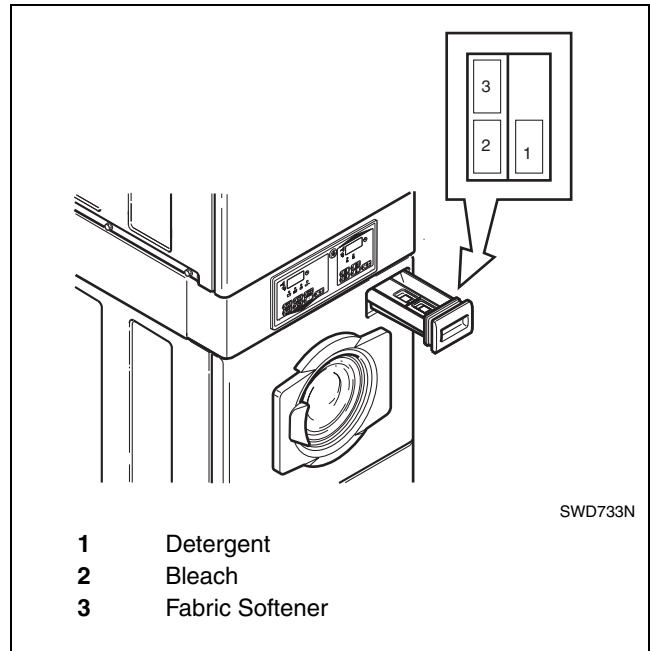

Figure 34
Open dispenser drawer. Measure and add low sudsing detergent (1), bleach (2) and fabric softener (3) to the dispenser drawer (refer to *Figure 34*). Close dispenser drawer.